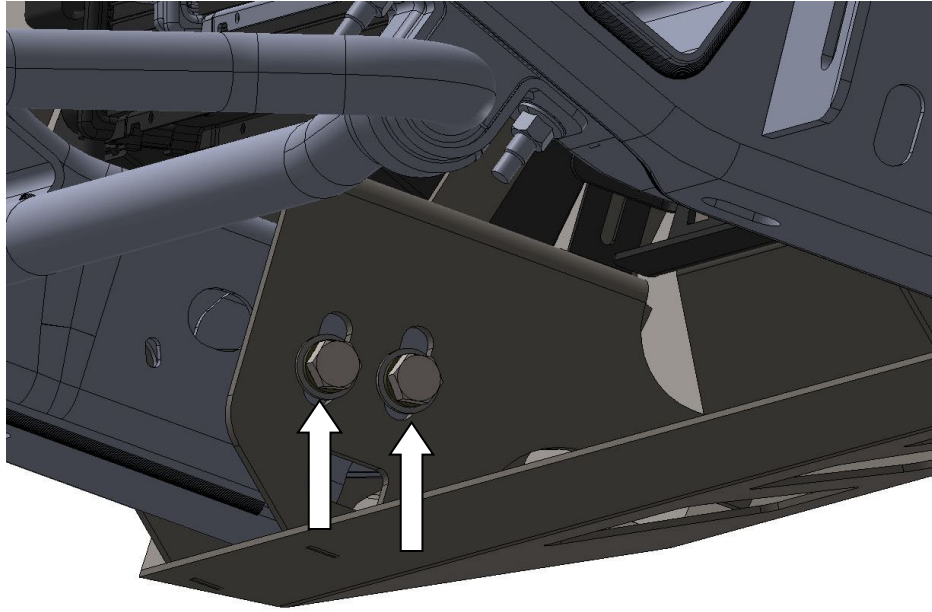

Figure 11
10. With assistance, place the bumper on the truck and use the provided  $\frac{1}{2}$ " bolts with flat and lock washers to fasten the bumper to the frame with the already installed nut plates. (50255-HW). (Fig 11)